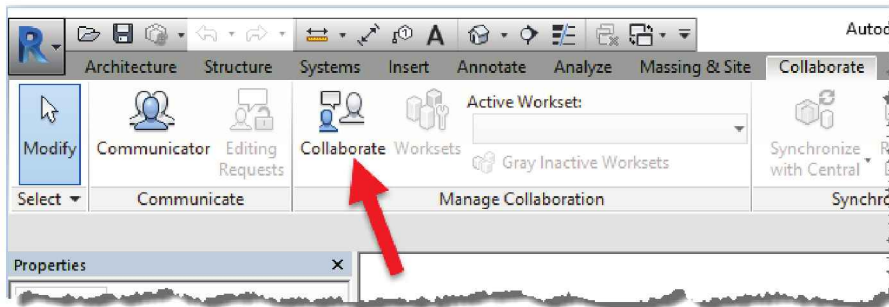

FIGURE 16-2.2 Worksharing tools on the Ribbon
The main Worksharing tools are conveniently located on the Status Bar (Figure 16-2.2). These same tools, plus a few others, are located on the Collaboration tab in the Ribbon. The average user can get by with just the Status Bar tools, but we have to start on the Ribbon.
- Click **Collaborate** on the Ribbon shown in Figure 16-2.2